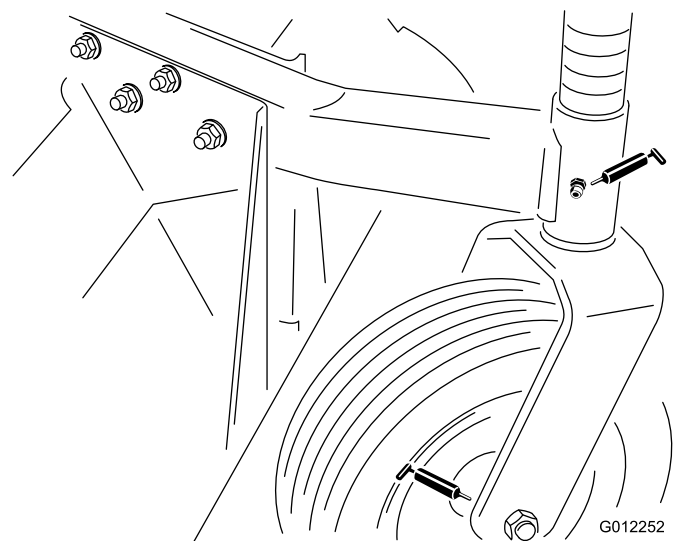
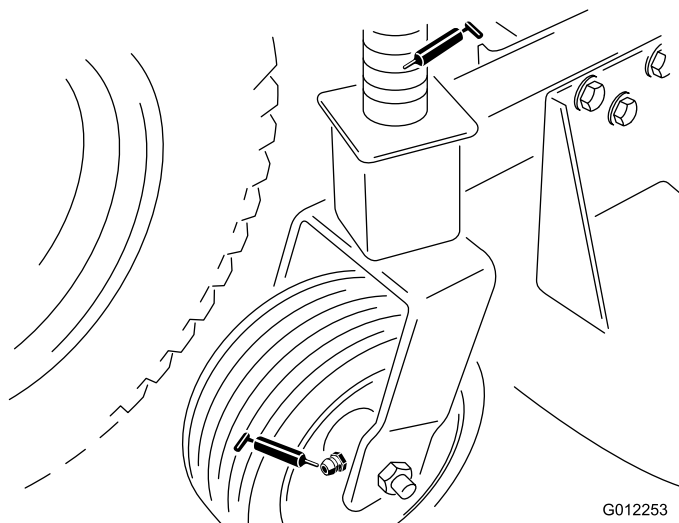

Figure 15
Figure 16
- Front castor spindle bushings (Figure 15)
- Castor wheel bearings (Figure 15) & Figure 16)
purpose lithium base grease or molybdenum base grease every 50 hours (Figure 16).